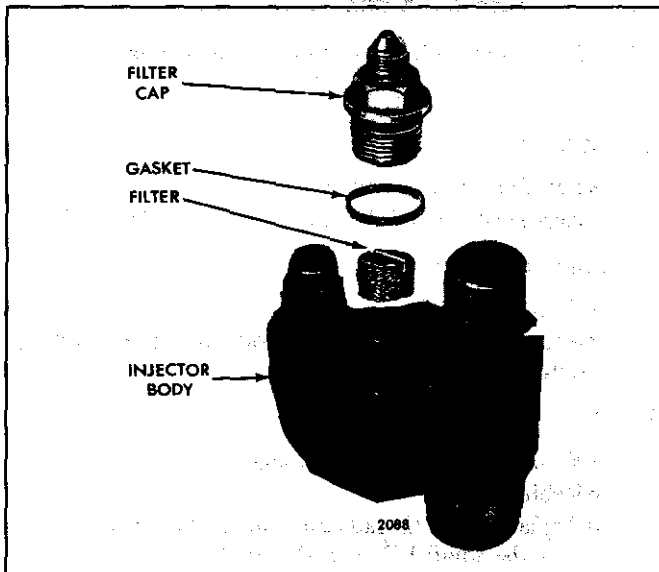

Fig. 26 - Details of Injector Filters and Caps and Their Relative Location
2. Insert new filter(s) in the top of the body (Fig. 26). The current production service filter (stainless steel wire mesh pellet) is installed dimple end down, slotted end up. The former service filter (fiberglass-filled nylon cone) was installed with the pointed (cone) end up.